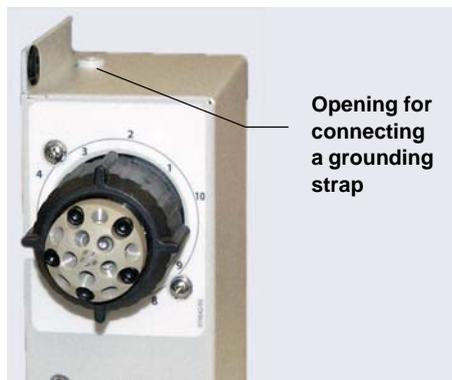

Figure C-5. *Grounding Strap Connection Location*
6. Before continuing, note the raised opening on the top of the mounting bracket (see Figure C-5). Later in the procedure, you will connect a grounding strap here. The grounding strap is a flat cable located inside the Dionex AS-AP in the upper-left back corner (where the valve cables are located).